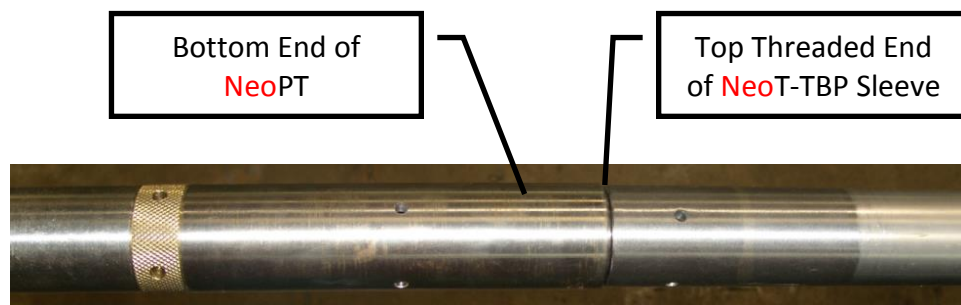

Figure 6: NeoPT Threaded onto the NeoT-TBP Sleeve
3. Thread the NeoPT onto the NeoT-TBP Sleeve until shouldered up. [see Figure 6]